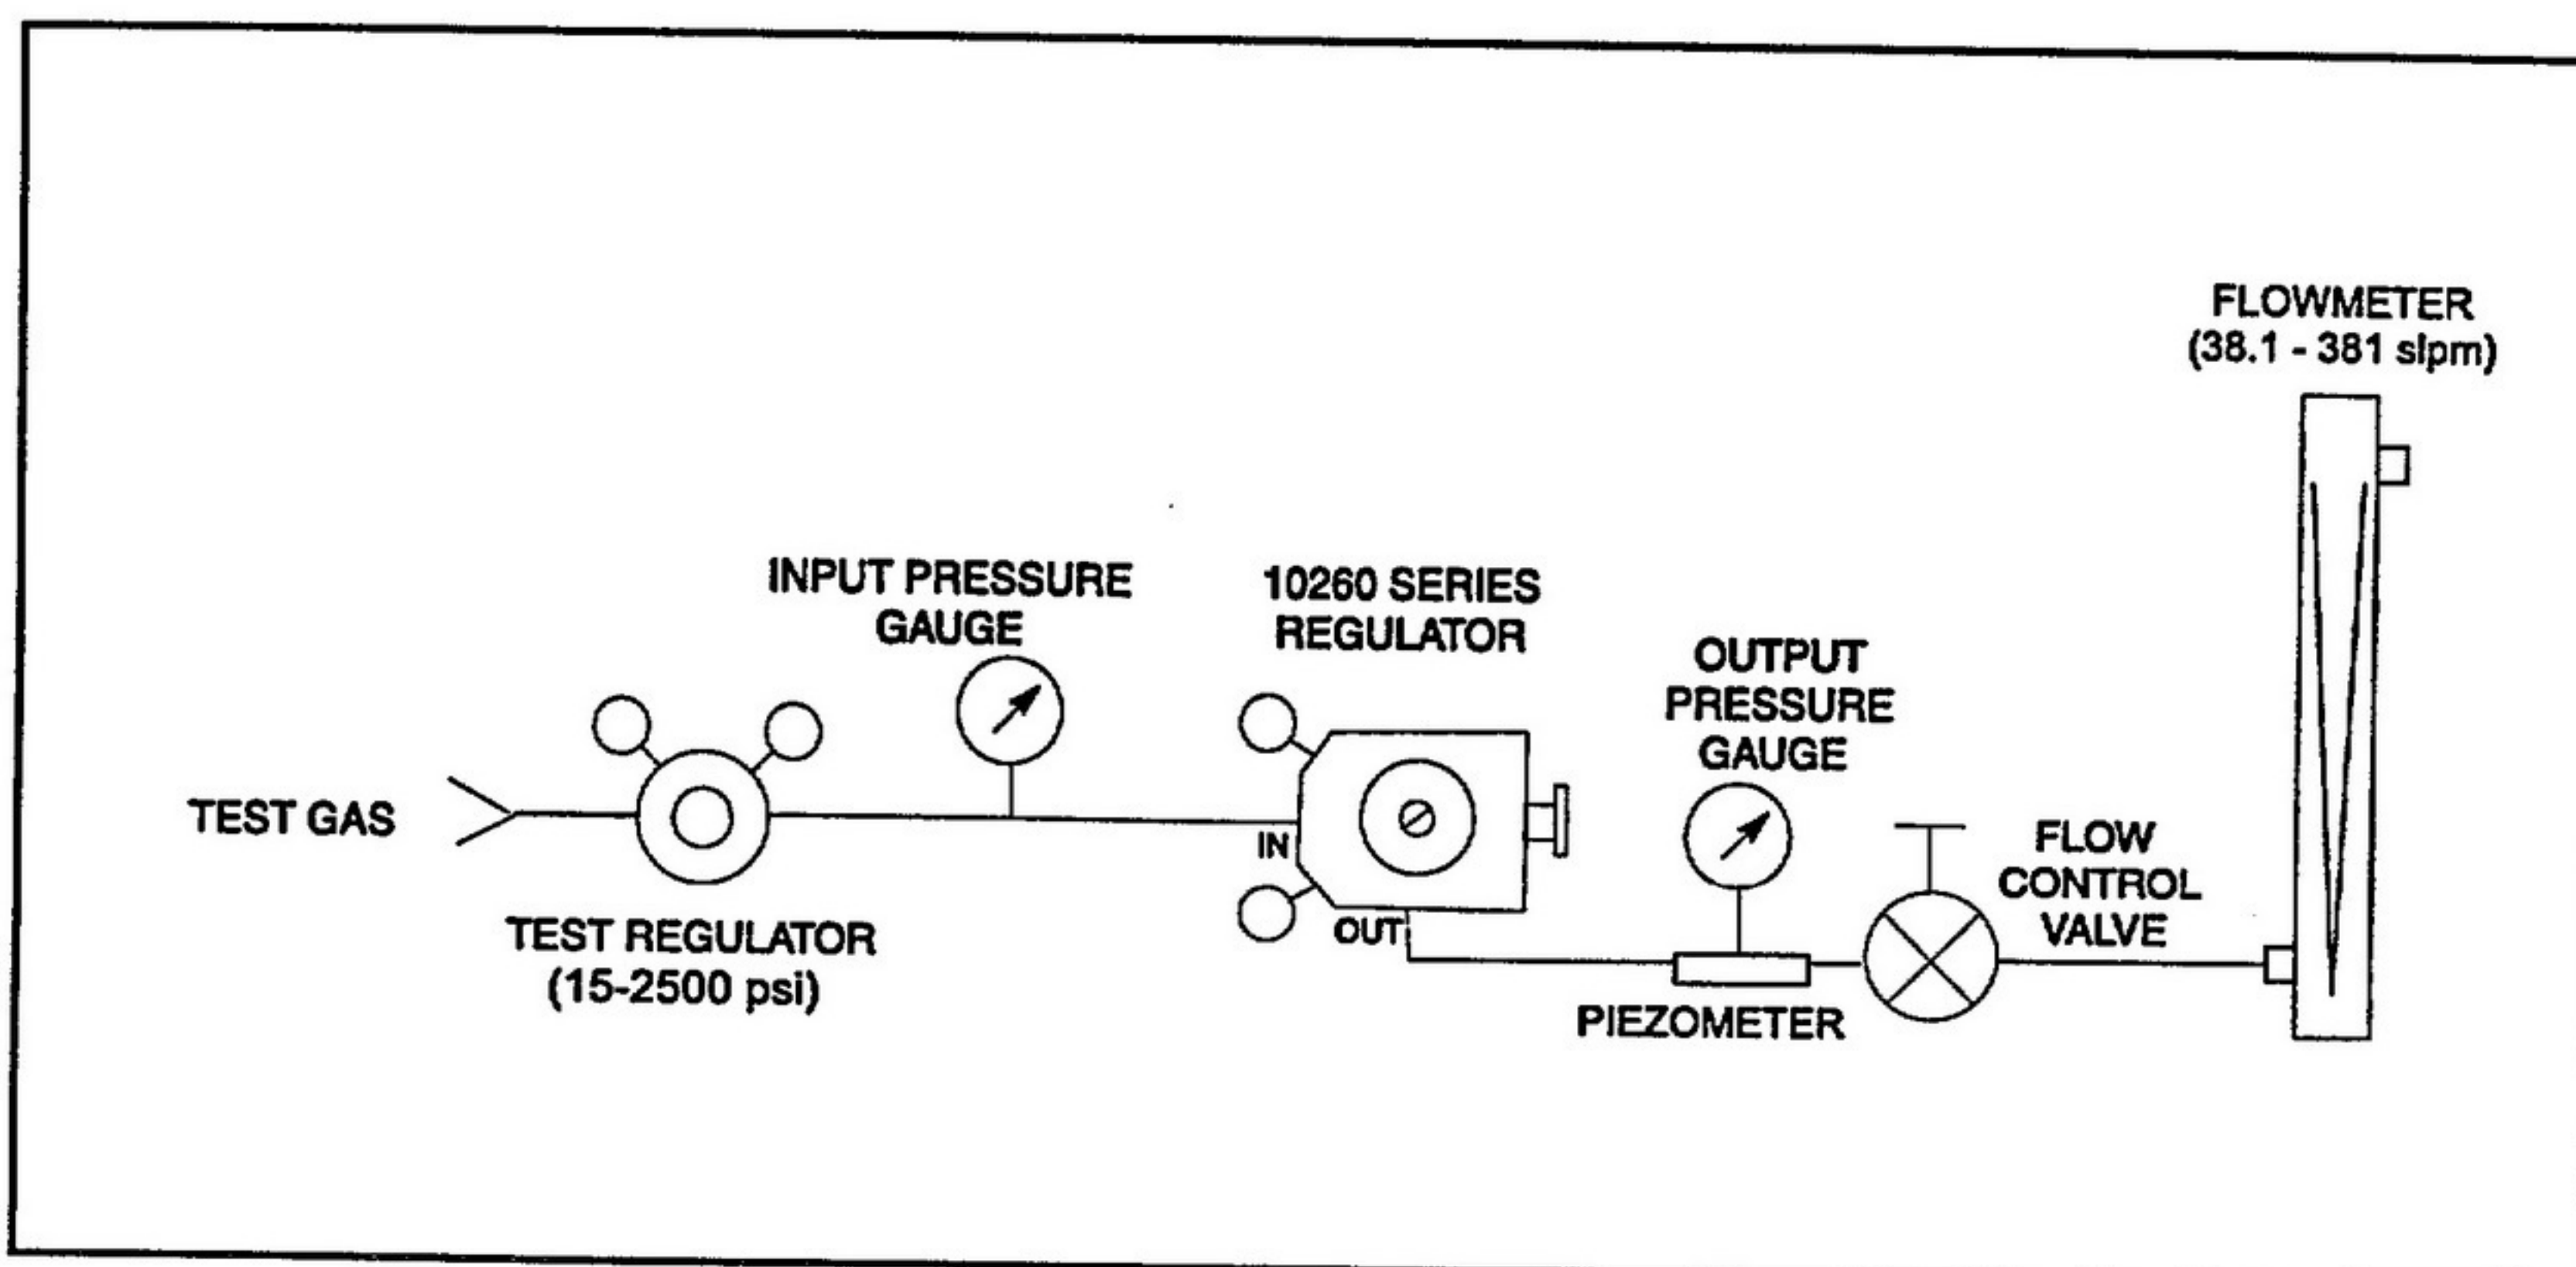

Figure 103: Flow Test Set-up
- (1) Attach regulator assembly to the test equipment as shown in Figure 103. Use the flowmeter (0.62 - 6.2 slpm) and set the flow control valve to the closed position (clockwise).
- (2) Adjust test regulator to 150 psig (1.03 MPa) as shown on input pressure gauge. Output pressure as indicated on output pressure gauge, shall be 70-75 psig / 0.48-0.52 MPa (94 psig / 0.65 MPa maximum for 10260-06 and 10260-08).
- (3) Adjust flow control valve to have a flow indication of 2.0 lpm (NTPD) as shown on flowmeter. The regulated output pressure, as indicated on output pressure gauge, shall not be more than 8 psig (0.06 MPa) less than the output pressure indicated in step (2).
- (4) Change the one flowmeter (0.62 - 6.2 slpm) to the other flowmeter (38.1 - 381 slpm) and adjust the flow control valve to obtain flow indications of 100, 200 and 300 lpm (NTPD). Regulated output pressures shall be within the pressures shown in Table 103.
- (5) Set flow control valve to the closed position (clockwise) and adjust test regulator to 1800 psig (12.41 MPa) as shown on input pressure gauge. Output pressure, as indicated on output pressure gauge, shall be 60-75 psig / 0.41-0.52 MPa (94 psig / 0.65 MPa maximum for 10260-06 and 10260-08).
- (6) Adjust flow control valve for flow indications on flowmeter of 100, 200 and 300 lpm (NTPD) as shown in Table 103. Regulated output pressures shall be within the pressures shown in Table 103.
- (7) Decrease test regulator pressure to 0 psig (0 MPa) as shown on the input pressure gauge.